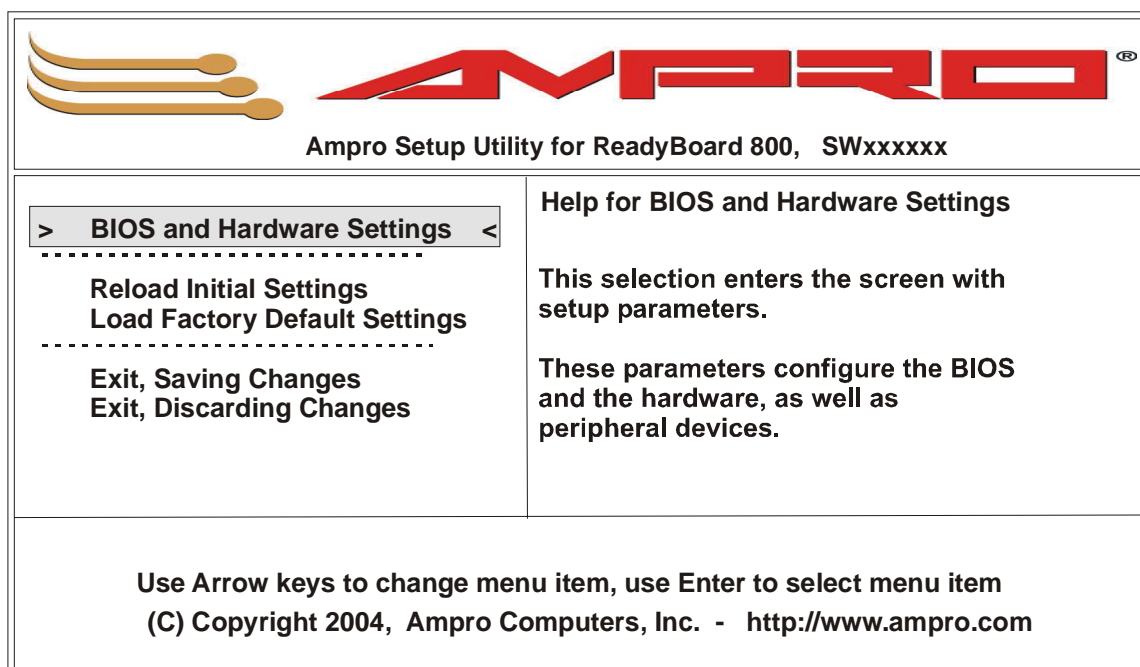

Figure 4-1. Opening BIOS Screen
3. Use the <Enter> key to select the screen menus listed in the opening BIOS screen. See Figure 4-1.
5. Use the <Enter> key to select the screen menus listed in the opening BIOS screen. See Figure 4-1.